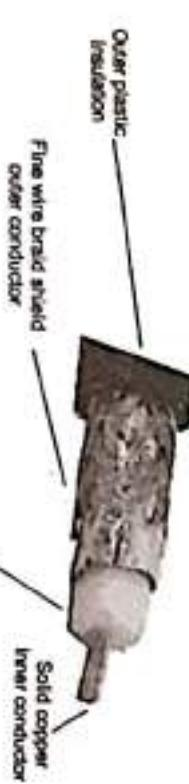

Fig. Q.11.1 Co-axial cable
**Ans. :** • The co-axial cable consists of a solid-center conductor surrounded by a plastic insulator such as Teflon. Over the insulator is a second conductor, a tubular braid or shield made of fine wire, as shown in Fig. Q.11.1. An outer sheath protects and insulates the braid.